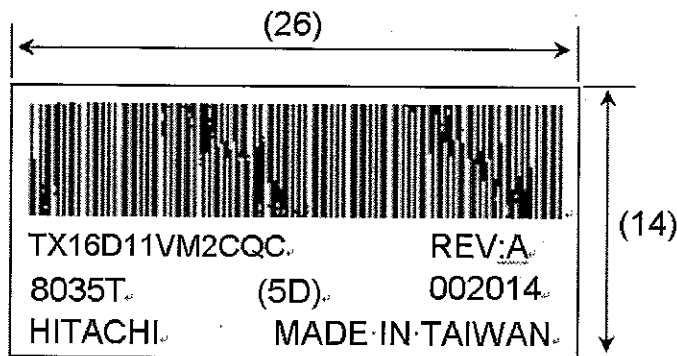

Fig 14.3
1) The lot mark is showing in Fig. 14.3. First 4 digits are used to represent production lot, T represented made in Taiwan, and the last 6 digits are the serial number.
4) The location of the lot mark is on the back of the display shown in Fig. 14.3.